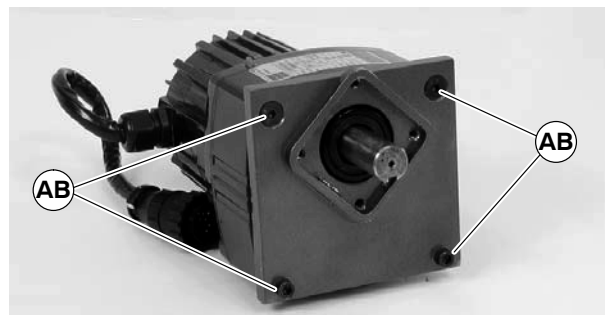

Figure 20
8. Remove four adapter plate screws (AB of Figure 20). Remove adapter plate.
9. Install new gearmotor to adapter plate with screws (AB of Figure 20). Tighten screws to 103 in-lb (12 N-m).